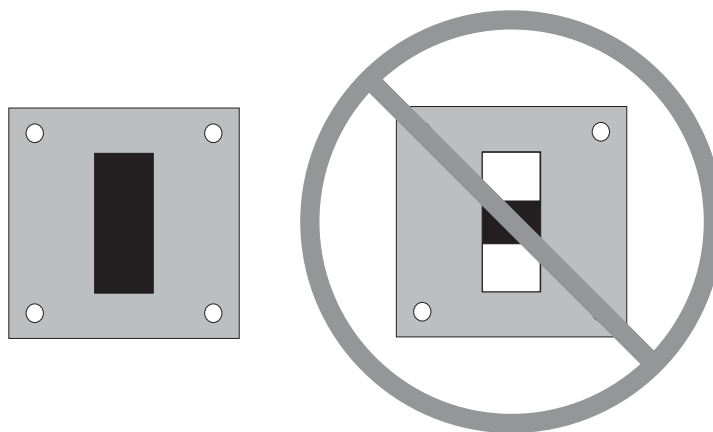

Figure 5-13 Correct and incorrect installation of waveguide gasket.
1. **Waveguide gasket installed improperly.** See Figure 5-13 for the proper orientation of the gasket.